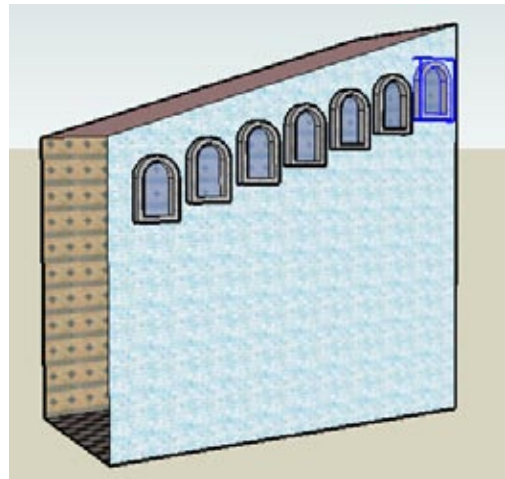

Figure 1-39
- Enter  $6x$ , or whatever number works for you, to get your internal array of windows (Figure 1-39). All of the copies now appear between the first and last windows.